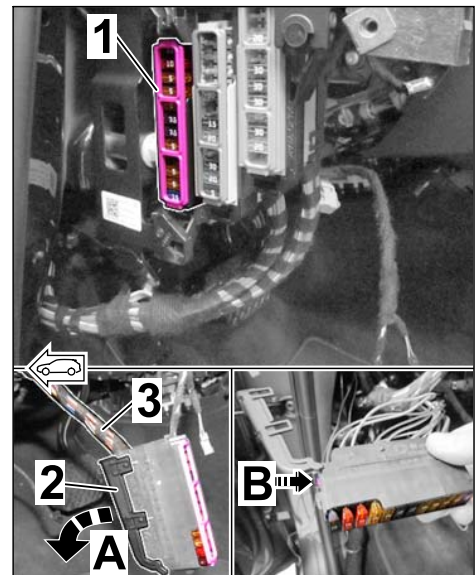

Figure 31
- 2.6.2 Release fuse strip A (black) using a screwdriver and remove it by pulling it to the rear and out of the fuse carrier (A-pillar area) (\Rightarrow *Figure 31*).
Release cover (\Rightarrow *Figure 31 -2-*) on fuse strip A (black) at both sides and remove it.
Open secondary lock on fuse strip A (black) (\Rightarrow *Figure 31 -B-*).
- 2.6.3 Remove wrapping tape from standard wire harness (\Rightarrow *Figure 31 -3-*).